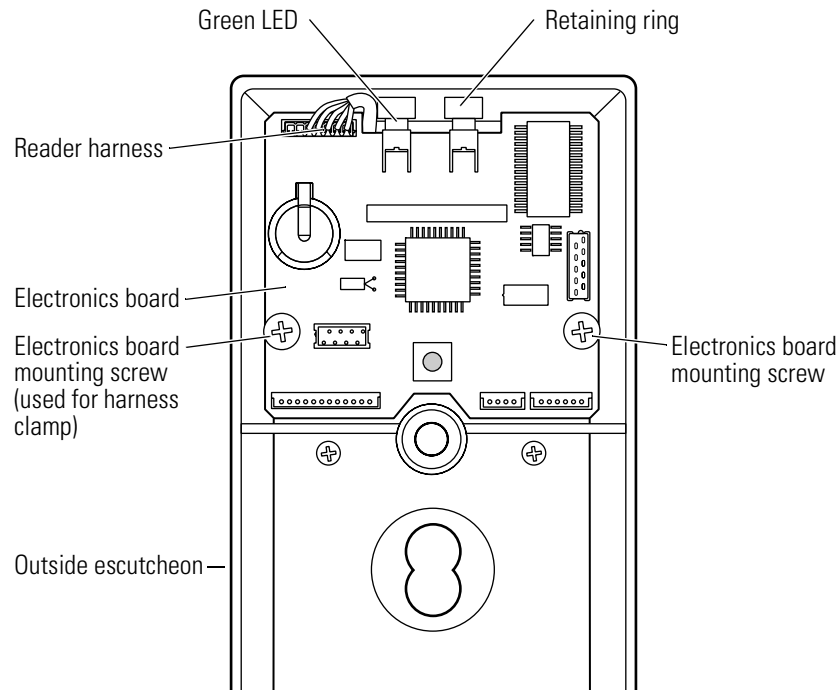

Figure 9.9 Removing and reinstalling the magnetic stripe control electronics board
See Figure 9.9.
2. Firmly connect the reader harness to the connector on the upper-left corner of the electronics board. The connector should snap into place. See Figure 9.9.